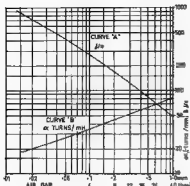

FIG. 1 CURVES FOR 180° AND 360° MATERIAL
2. This permeability value will be obtained (from Curve A of Fig. 1) with an air-gap of 0.2 mm. (approximately 3 thous.).
3. Curve B of Fig. 1 gives the number of turns/mH. = 45 = α .